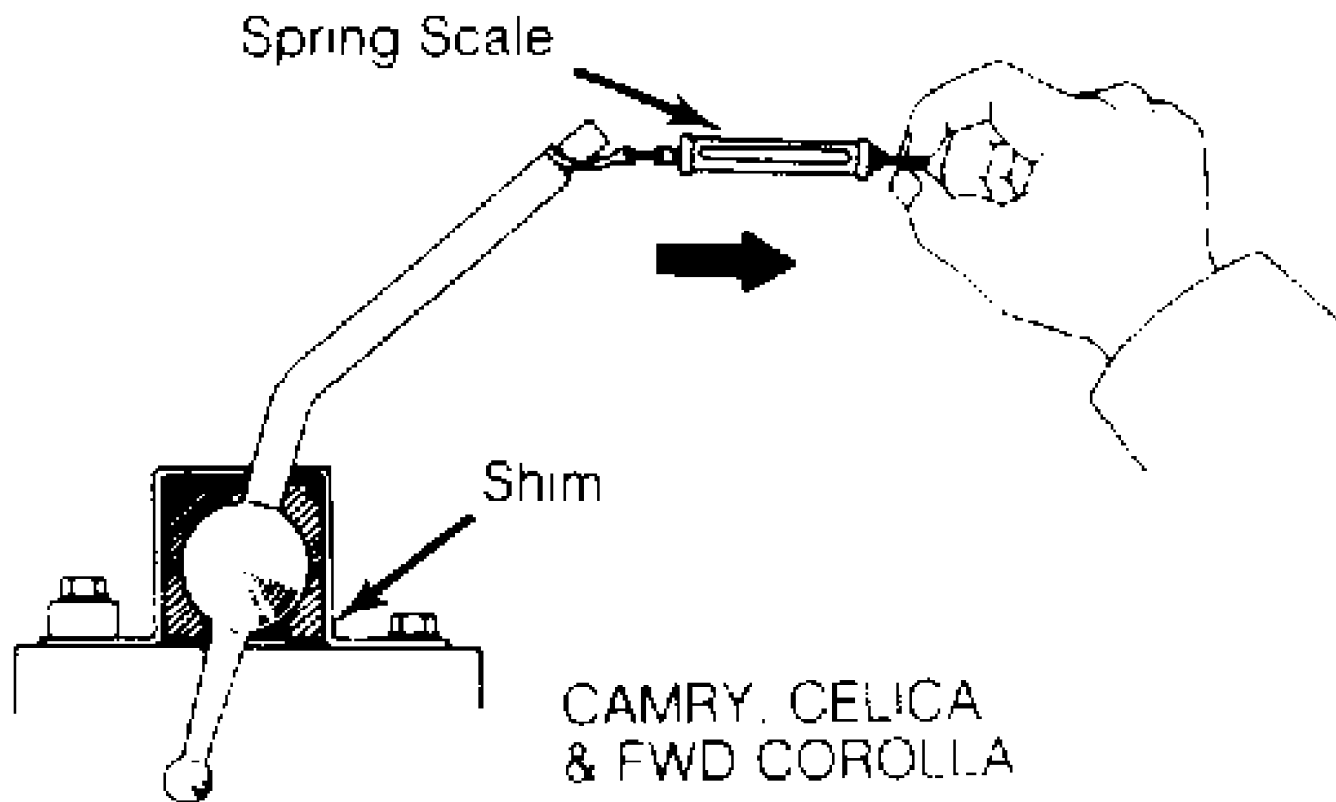

Fig. 2: Checking Shift Lever Preload
1) Select a shim that allows a preload of 1.6-3.2 oz. (50-100 g) at the top of shift lever. See Fig. 2. Install shim in shift lever seat.